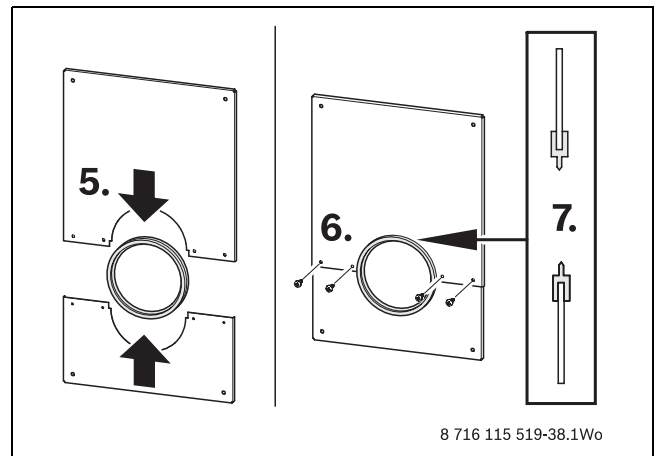

Fig. 39 Assembling flue inspection plates
7. Check the rubber gasket is seated properly as shown in fig. 39.